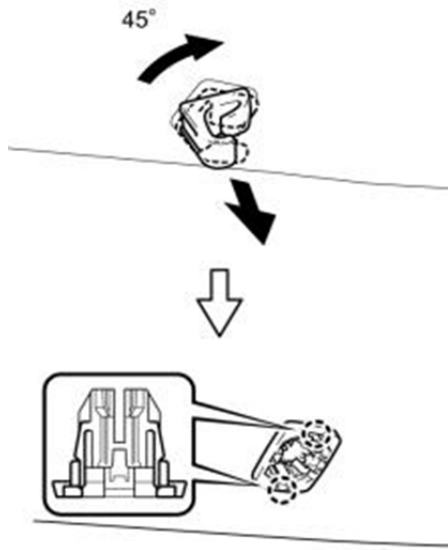

Figure 2
2. Remove the driver side visor holders. Turn the holder clockwise approximately 45° and pull it as shown in the illustration. Detach the 2 claws and remove the visor holder. See Figure 2